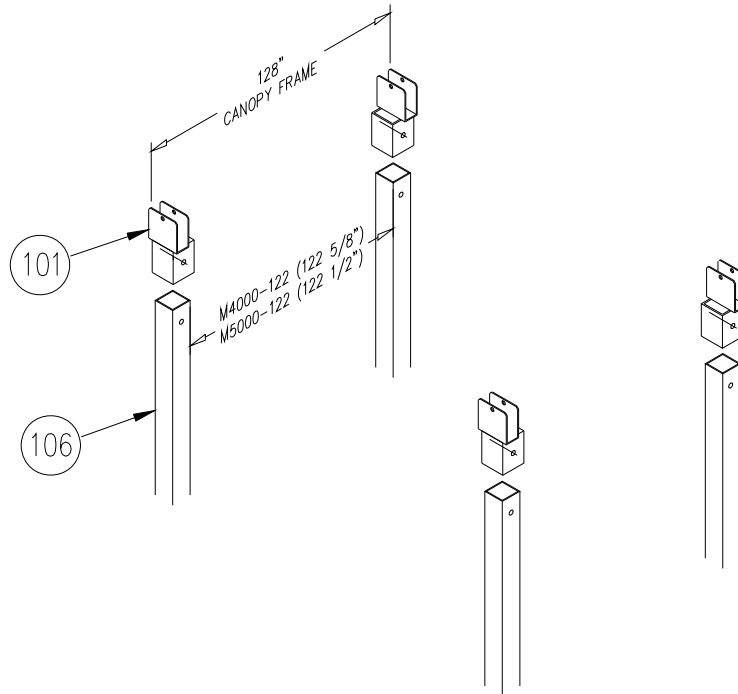

Figure 2-2
1. Refer to **Figure 2-2**. Install canopy adapter to the canopy post legs. The post legs are predrilled for the canopy adapter.